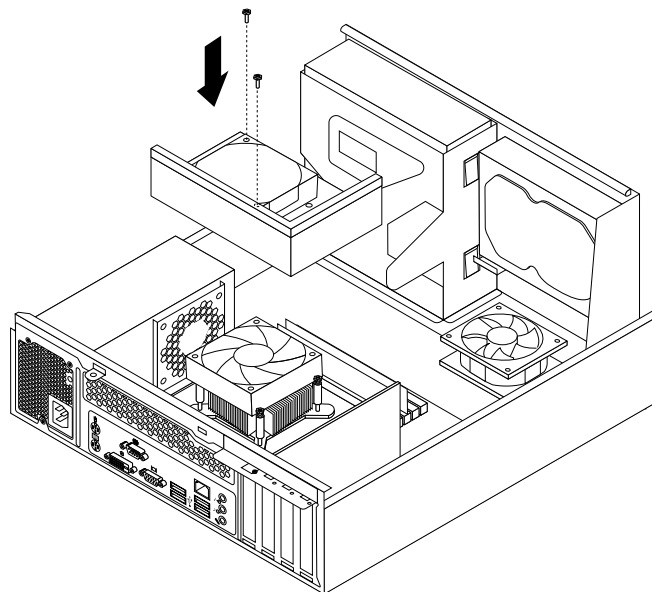

Figure 26. Installing the heat sink fan duct
11. Reinstall the heat sink fan duct. See Figure 26 “Installing the heat sink fan duct” on page 30.